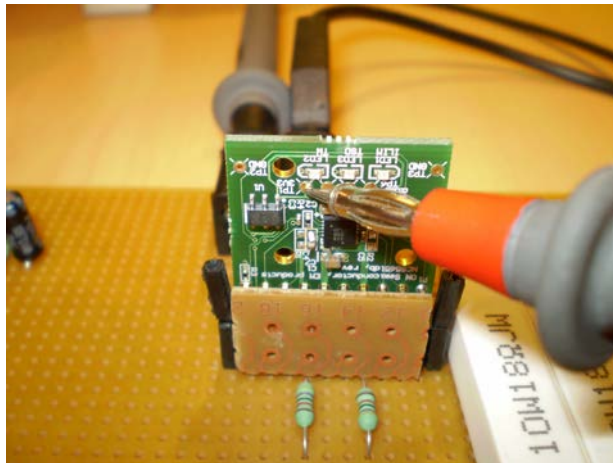

Figure 3: Method to measure the 3V3 logic supply.
12. Disconnect the DVM probe from the hook or the yellow banana socket and place this on test point 1 (TP1) of the NCS5651MNSEVB. The output voltage on this point should be **3.3±0.15 V**. The method is shown in *figure 3*.